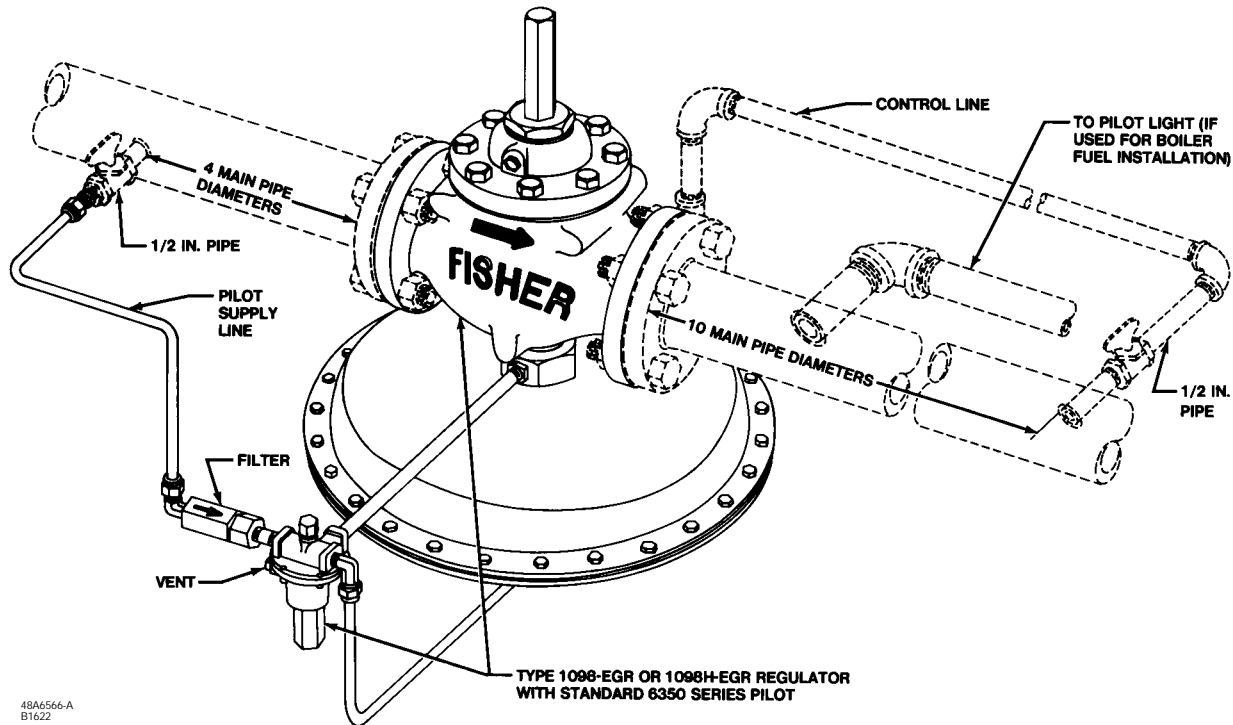

Figure 3. Standard Single-Pilot Installation
4. Run a 3/8-inch outer diameter or larger pilot supply line from the upstream pipeline to the filter inlet as shown in figure 3, bushing the line down to fit the 1/4-inch NPT filter connection. Do not make the upstream pipeline connection in a turbulent area, such as near a nipple, swage, or elbow. If the maximum pilot inlet pressure could exceed the pilot rating, install a separate reducing regulator in the pilot supply line. Install a hand valve in the pilot supply line, and provide vent valves to properly isolate and relieve the pressure from the regulator.
5. Attach a 1/2-inch NPT downstream pressure control line of the regulator in a straight run of pipe as shown in figure 3. Connect the other end of the control line to the bonnet connection. Do not make the tap near any elbow, swage, or nipple that might cause turbulence. Install a hand valve in the control line to shut off the control pressure when the bypass is in use.